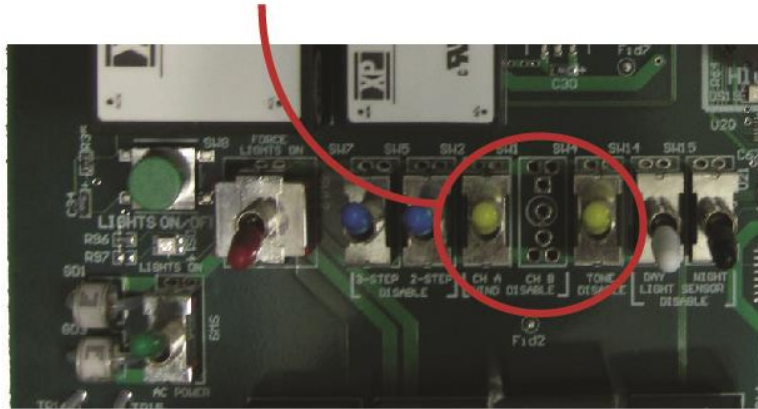

Figure 15: Configuring the VHF Transmitter Option
Putting the Wind Disable switch (Figure 15) in the down position will disable all voice transmission, causing the Lighting Controller to transmit two tone bursts instead of voice whenever the lights are activated. This switch would be normally used during a failure of the Wind Sensor that would cause it to transmit faulty wind advisories, such as lack of calibration, or physical damage.
Putting the Tone Disable switch (Figure 15) in the down position will disable transmission of the tones.
1. Disable all voice by putting the Wind Disable switch in the down position (Figure 15).
2. Enable tone transmission by putting the Tone Disable switch in the up position (Figure 15).
1. Enable voice transmission by putting the Wind Disable switch in the up position (Figure 15).